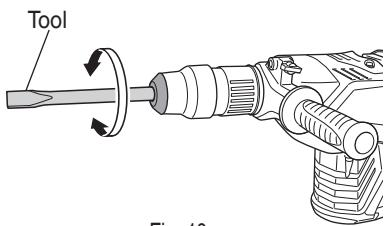

Fig. 10
- Turn the Tool as illustrated in Fig. 10 and fix the tool to the desired working direction.